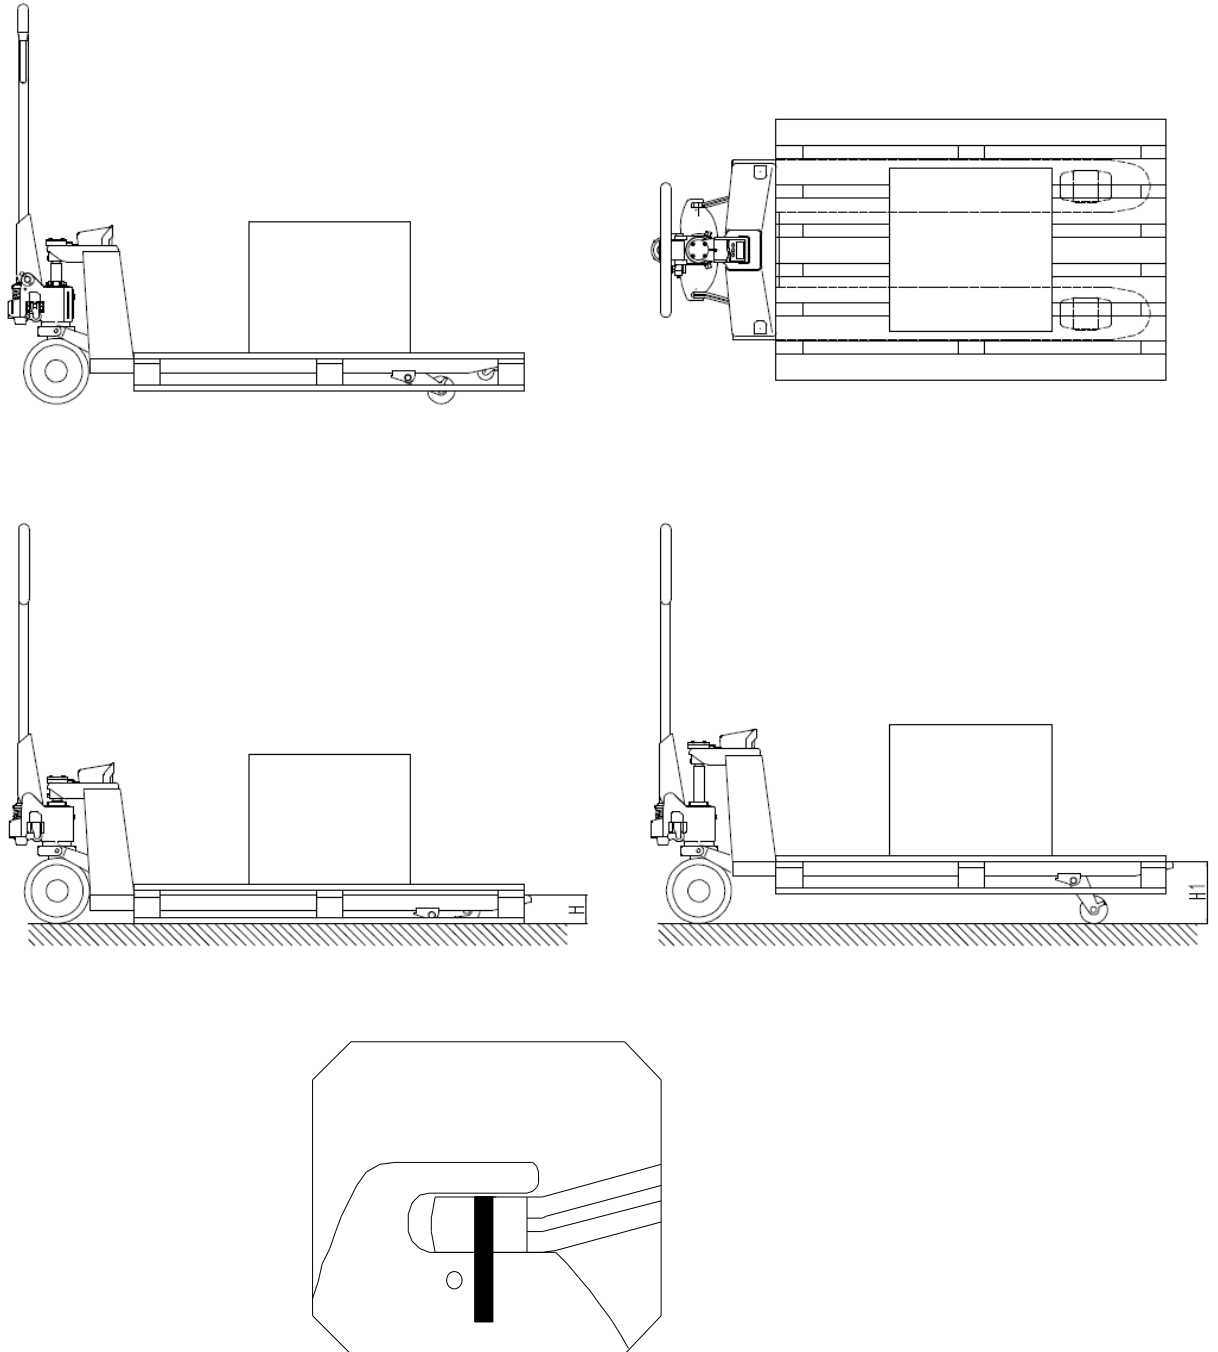

Fig 8
6.2.2 The goods must be in the load center of the fork when weighing. Then rock the handle to lift the fork to the indicating position of the marker line shown in fig 8. Read it after the value is stable.